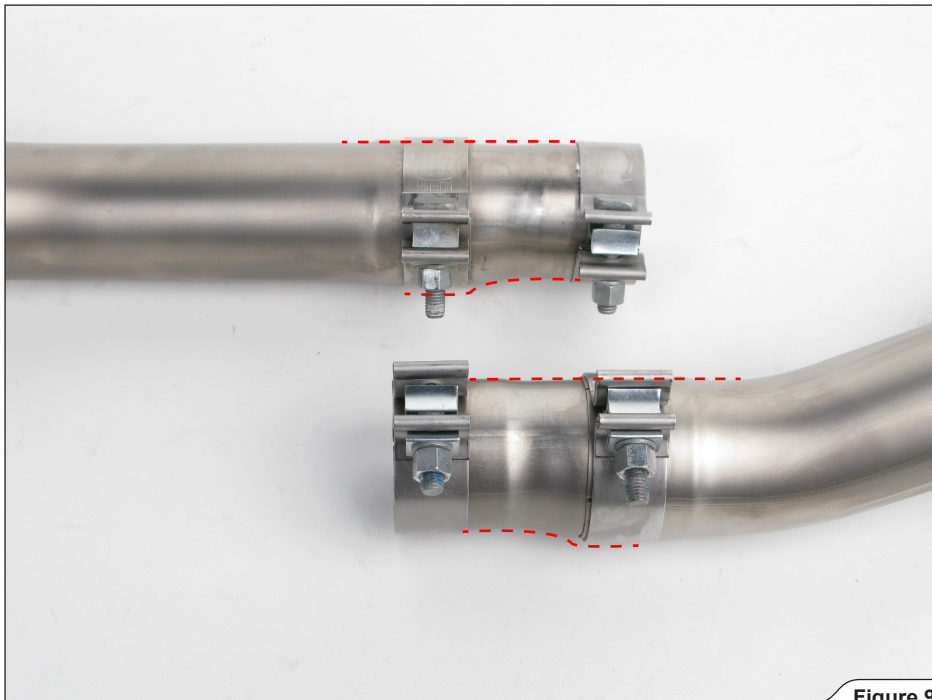

Figure 9
- ! **CAUTION:** the adapters are not symmetrical; align the flat part of the adapters with upper plane of the link pipes (**Figure 9**)!
! **WARNING:** only hand tighten the clamps (Figure 9)!